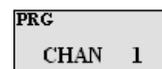

Figure 11
15. LCD will display the channel name/label, press the "ENT" key to keep name/label and finish programming the channel or press the "CLR" key to change the name/label for that channel. (See figure 11)